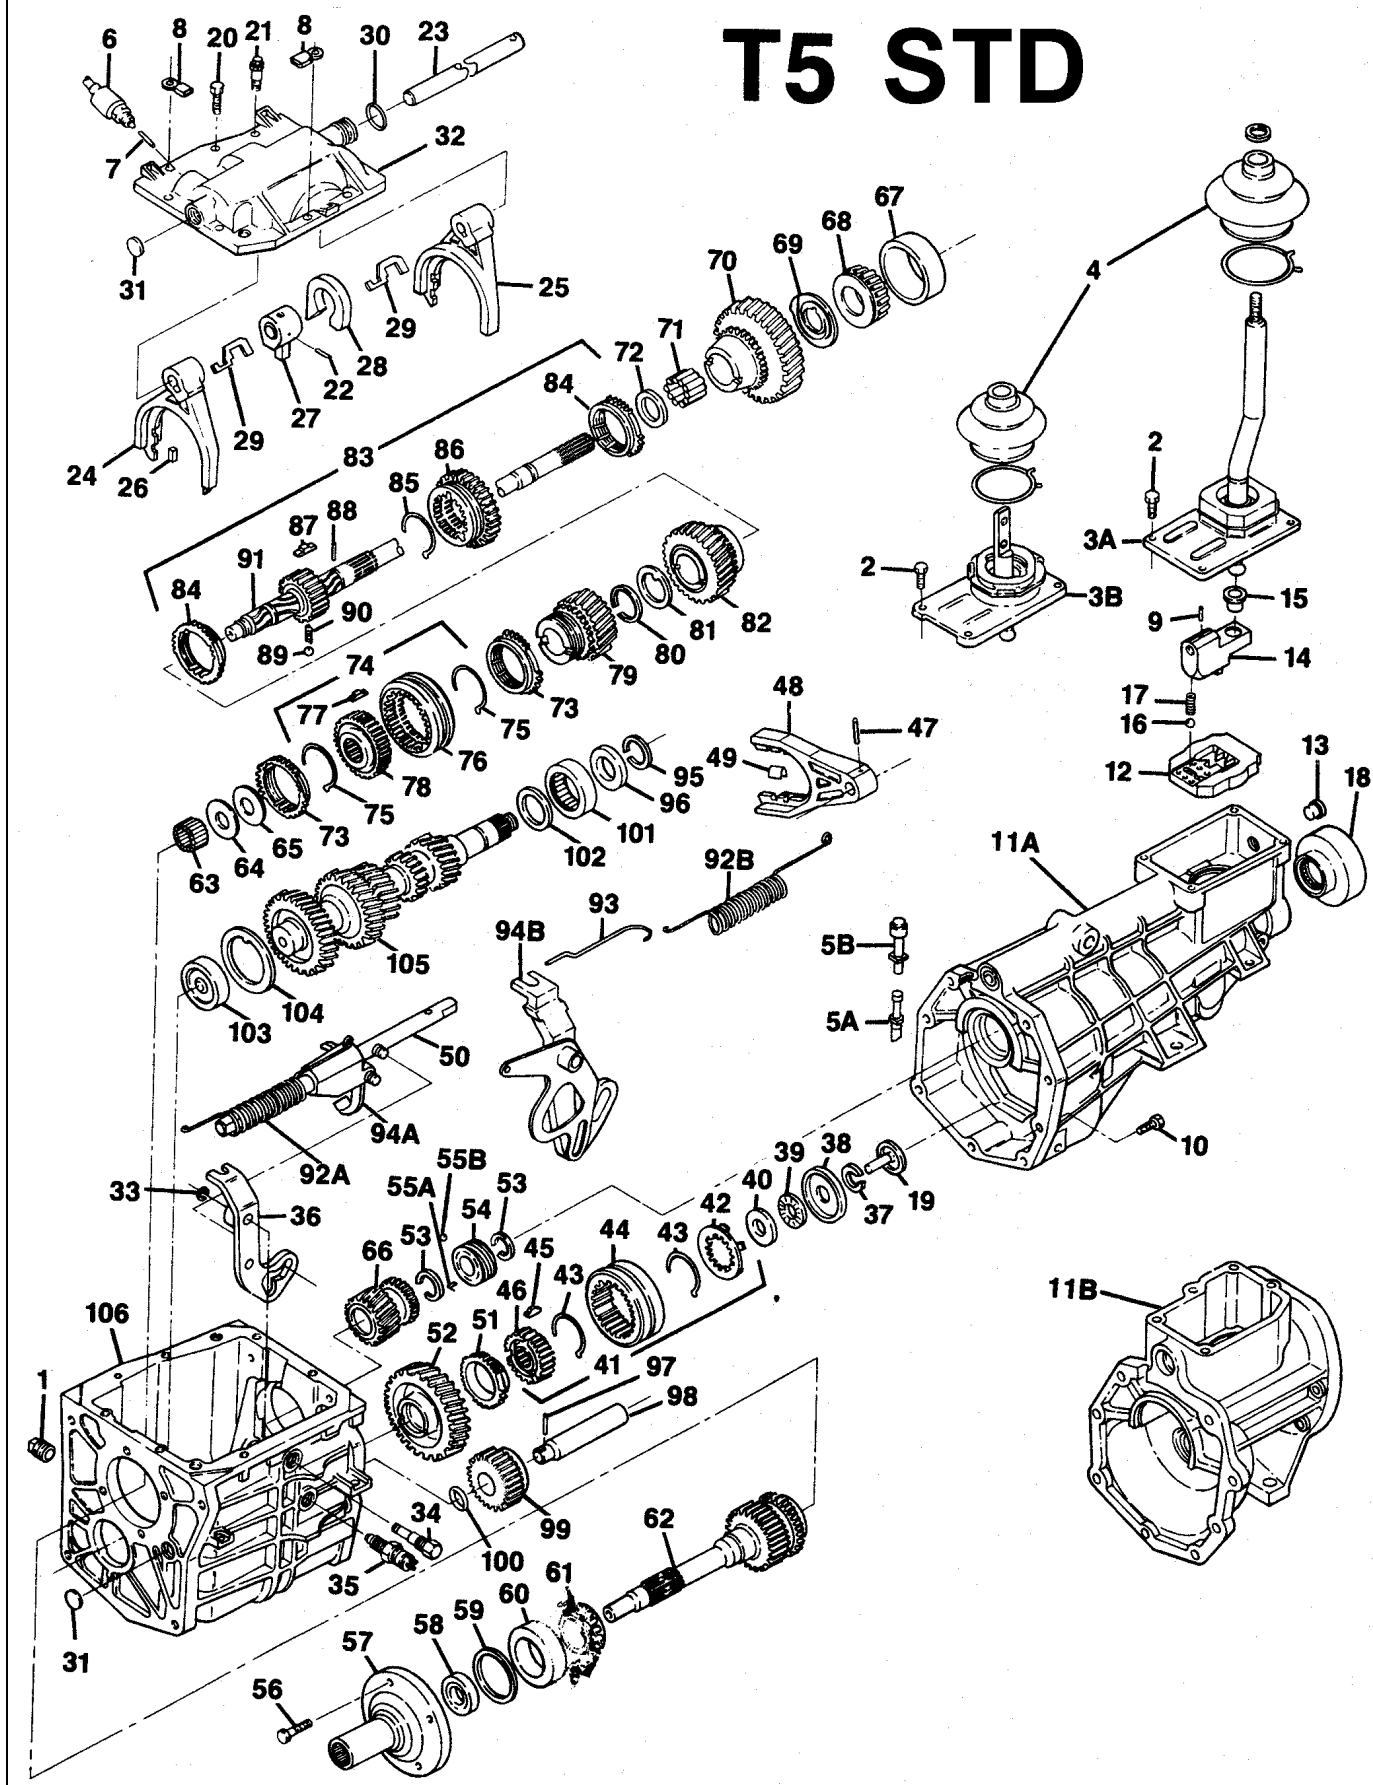

Figure 5-2. T5 STD Manual Transmission
**LEGEND FOR T5 STD, FIGURE 5-2**
**LEGEND FOR T5 STD, FIGURE 5-2 (CONT)**